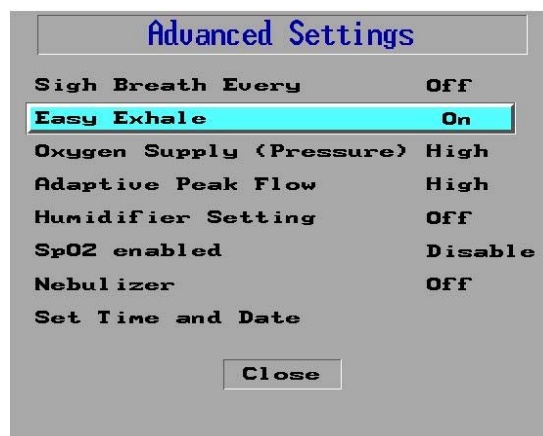

Figure 80: The Easy Exhale Selection Pop-Up
3. Press the Control Knob. A pop-up window appears with the values On and Off (Figure 80)